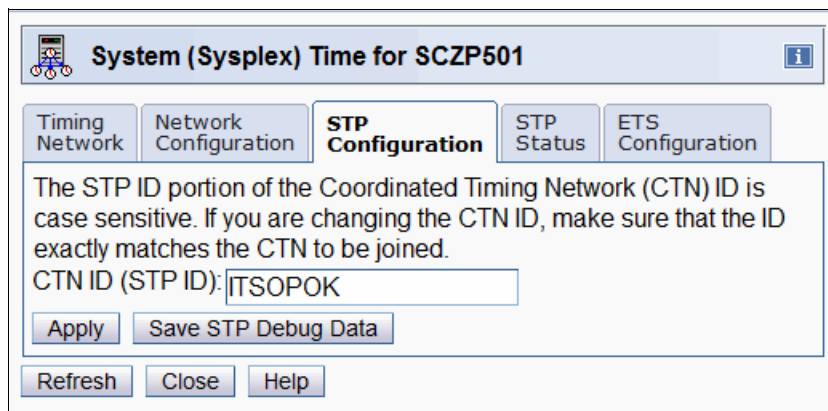

Figure 9-54 System (Sysplex) Time: STP Configuration tab defining the STP ID
1. In the z13 HMC, open the System (Sysplex) Time panel and select the **STP Configuration** tab (Figure 9-54 on page 539).